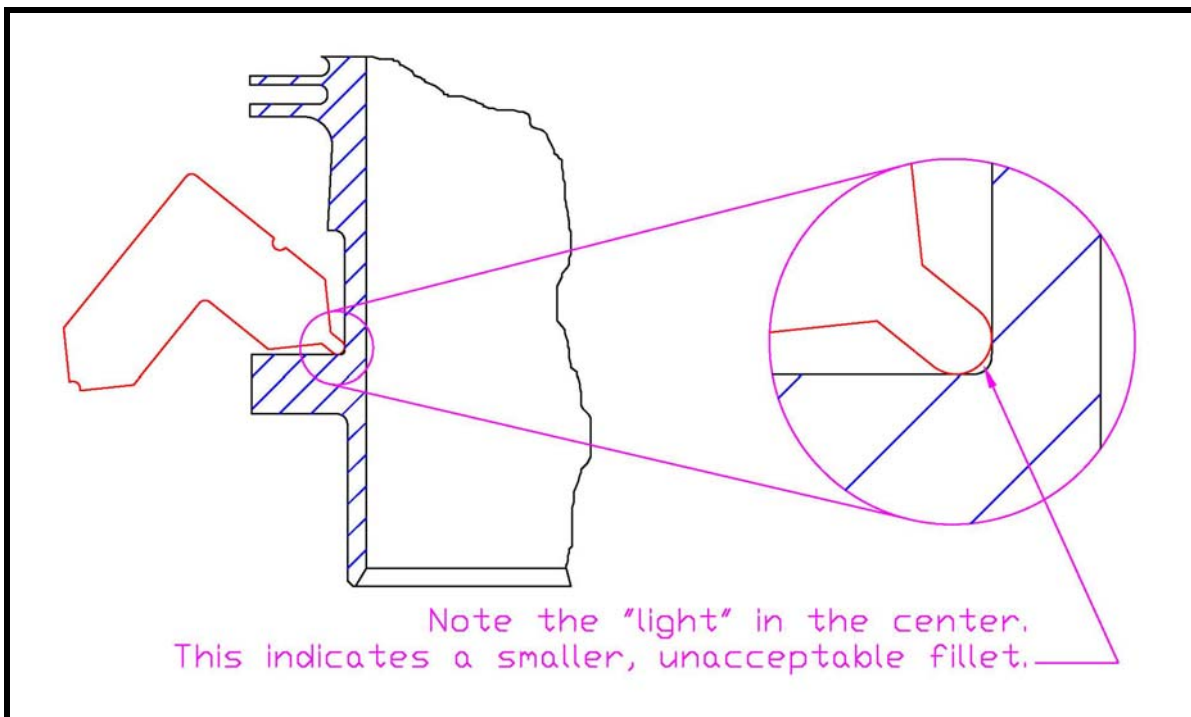

Figure 2: Drawing showing an unacceptable barrel fillet.
5. Using the .040 radius gage provided, visually inspect to ensure the fillet is correct as shown in Figure 2 and Photographs 2, and 3.